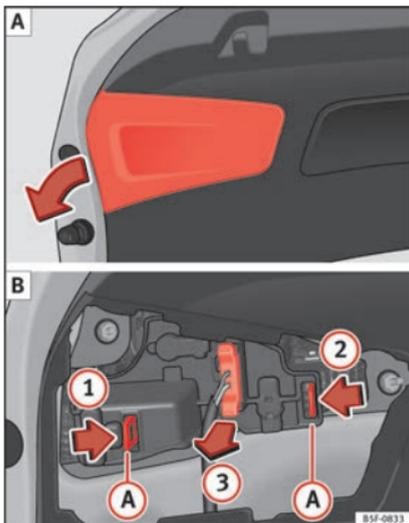

Fig. 113 Remove the cover from the boot lid and detach the bulb holder.
- Remove the rear lid cover in the direction indicated » **Fig. 113 [A]**.
- Unlock the retaining tabs **(A)** of the bulb holder, following the direction of arrows **(1)** and **(2)** » **Fig. 113 [B]**.
- Remove the bulb holder, moving it in the direction of arrow **(3)** » **Fig. 113 [B]**.
- Reinstall the bulb holder, making sure that locking clips **(A)** » **Fig. 113 [B]** are properly clipped on.